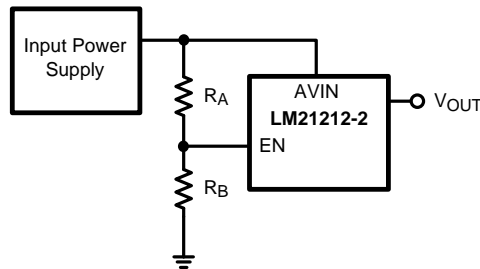

Figure 23. Enable Start-up Through  $V_{IN}$
The LM21212-2 has a built-in undervoltage lockout protection circuit that keeps the device from switching until the input voltage reaches 2.7V (typical). The UVLO threshold has 200 mV of hysteresis that keeps the device from responding to power-on glitches during start up. If desired the turnon point of the supply can be changed by using the precision enable pin and a resistor divider network connected to VIN as shown in Figure 23 in the design guide.
The enable (EN) pin of the LM21212-2 allows the output to be toggled on and off. This pin is a precision analog input. When the voltage exceeds 1.35V, the controller will try to regulate the output voltage as long as the input voltage has exceeded the UVLO voltage of 2.70V. There is an internal current source connected to EN so if enable is not used, the device will turn on automatically. If EN is not toggled directly the device can be preprogrammed to turn on at a certain input voltage higher than the UVLO voltage. This can be done with an external resistor divider from AVIN to EN and EN to AGND as shown below in Figure 23.